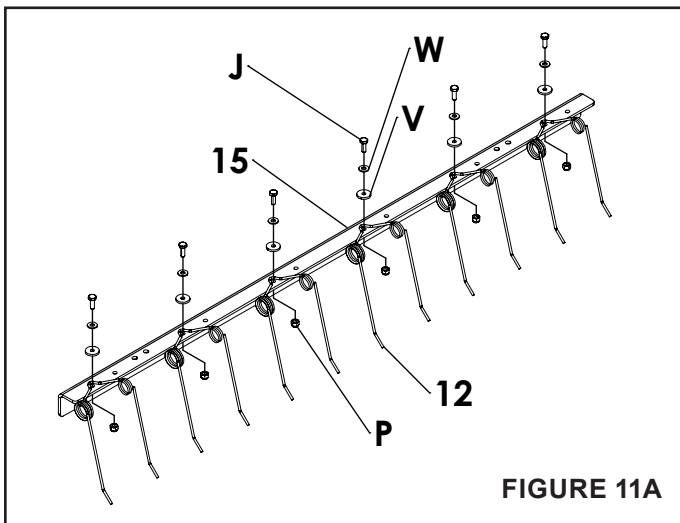

FIGURE 11A
- On one tine mount bracket (15), attach six thatcher springs (12) using six hex bolts (J), six washers (W), and six rubber washers (V). See figure 11A.
- Secure hex bolts (J) and washers using six nylock hex nuts (P). Part (P) should be flush with the end of bolt.